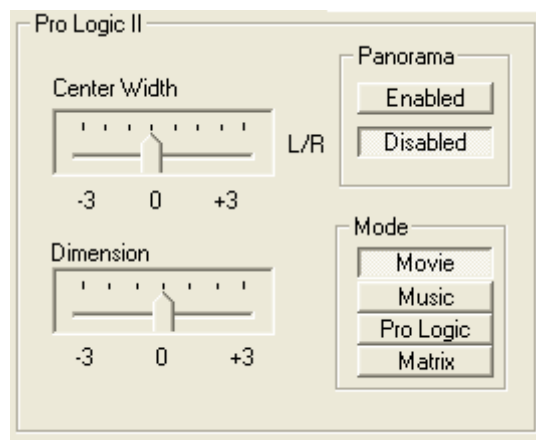

Figure A-5 Pro Logic II Controls
1. Select a mode by pressing one of the buttons shown in Figure A-5. The default is **Movie**.
2. In Music mode, use the sliders shown in Figure A-5 to adjust the **Center Width** value and **Dimension** values. The default for both is **0**.